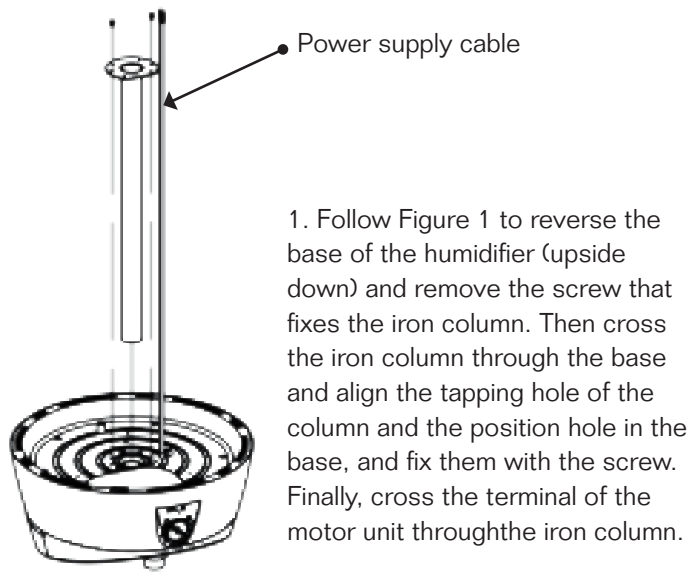

Figure 1
1. Follow Figure 1 to reverse the base of the humidifier (upside down) and remove the screw that fixes the iron column. Then cross the iron column through the base and align the tapping hole of the column and the position hole in the base, and fix them with the screw. Finally, cross the terminal of the motor unit through the iron column.